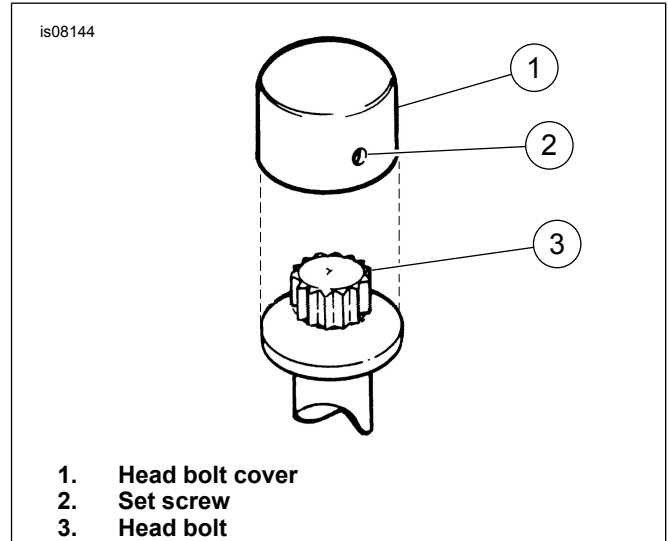

Figure 1. Head Bolt Cover Installation
2. See Figure 1. Install head bolt covers (1) on head bolts (3). Tighten using set screw (2) and hex wrench included with kit. To prevent set screws from falling into the spark plug holes, start threading the set screws into the covers before placing them over the head bolts. Position cover on head bolt so that when spark plug wire is installed the set screw is hidden from view but accessible to a hex wrench. Do not tighten set screws on high points of bolts.